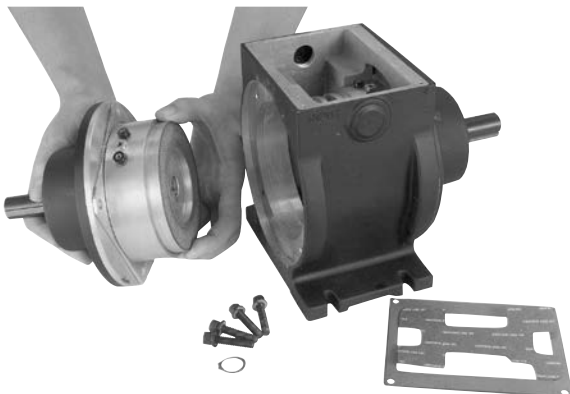

Figure 5
- b. Remove the rotor and replace it with a new one. Replace the retainer ring. (Figure 5)